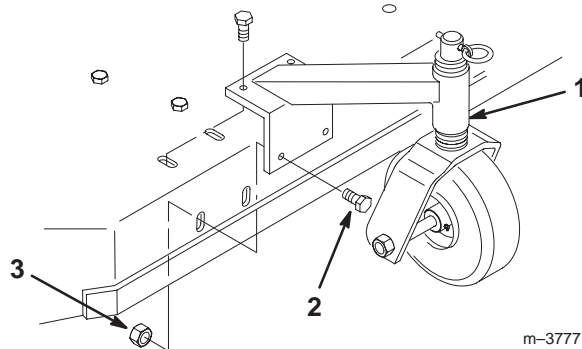

Figure 2
1. Align the casters with the holes on the top and front of the mower, and insert 8 bolts (3/8 x 3/4 in.) through the mower. Secure the casters with 8 flange nuts (3/8 in.) below the mower (Fig. 2).